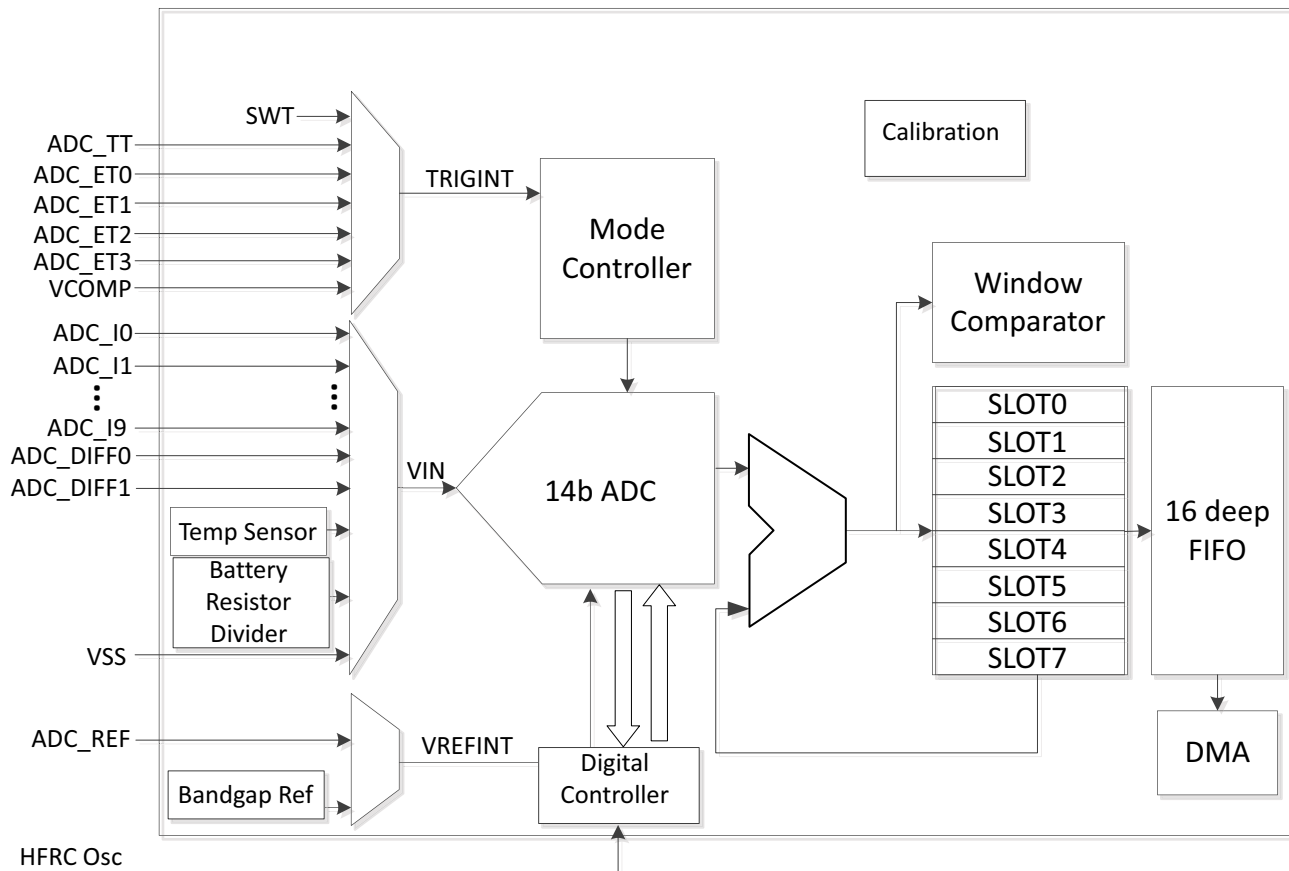

Figure 92. Block Diagram for ADC and Temperature Sensor
The Analog-to-Digital Converter (ADC) and Temperature Sensor Module includes a single-ended 14 bit multi-channel Successive Approximation Register (SAR) ADC as shown in Figure 92.
As shown in Figure 92, the ADC block contains a channel analog multiplexer on the input port to the analog to digital converter. Twelve (12) of the GPIO pins on the Apollo3 Blue SoC can be selected as analog inputs to the ADC through a combination of settings in the PAD configuration registers in the GPIO block and settings in the configuration registers described below.